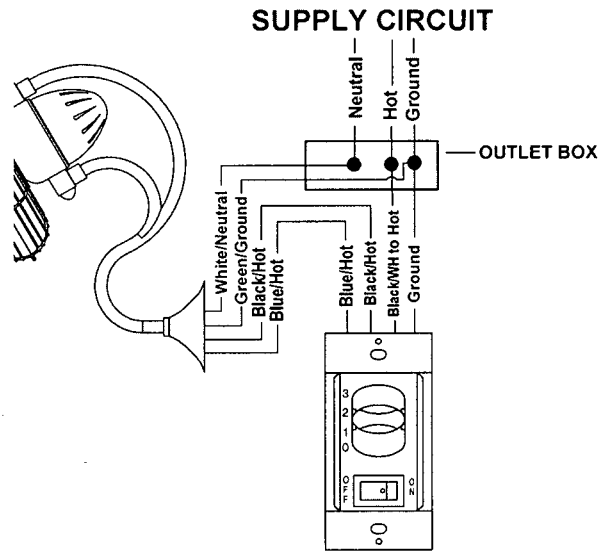

Figure 3
4. Connect the neutral fan wire to the household neutral wire. (Fig. 3)
**5A. Single Circuit Connection** Oscillation and fan motor action are not separate. Connect the black, hot fan blade motor wire to the blue, hot oscillating motor wire. Attach these two wires to the hot, household supply wire. (Fig. 3)
**5B. Two/Dual Circuit Connection** Oscillation motor can be regulated apart from fan motor. Connect the black, hot fan blade motor wire to a hot, household supply wire. Connect the blue, hot oscillating motor wire to the second hot, household supply wire. (Fig. 3)